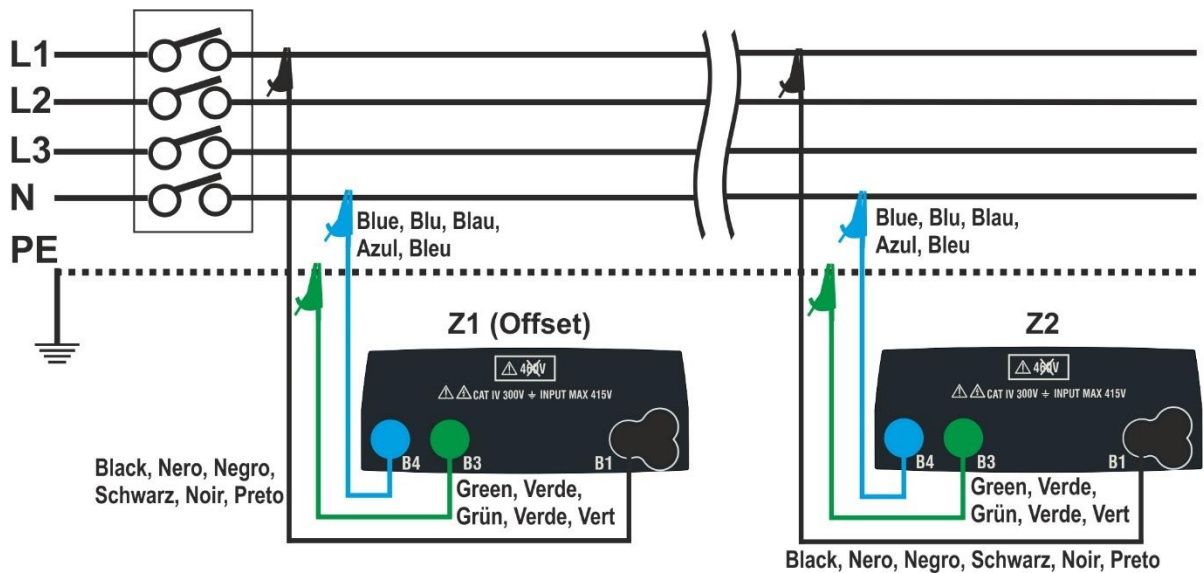
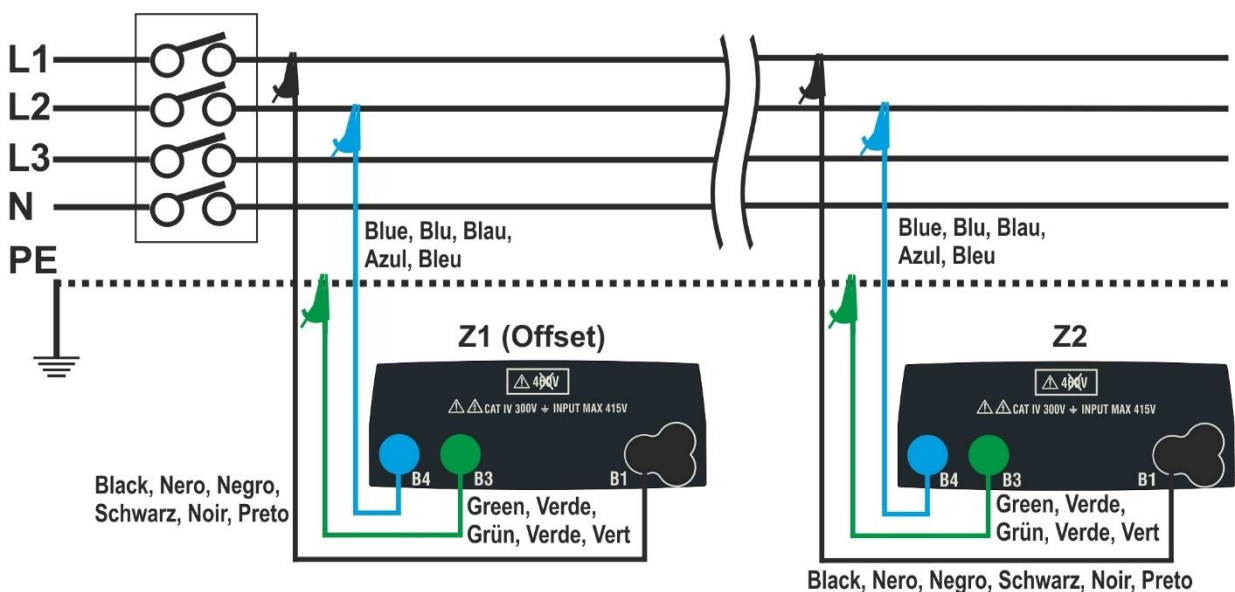

Fig. 33: Connection of the instrument for L-N mode voltage drop measurement
Fig. 34: Connection of the instrument for L-L mode voltage drop measurement
4. Connect the instrument to the initial point of the mains being tested (typically downstream of a protection device) according to Fig. 33 or Fig. 34 in order to carry out the first **Z1 (Offset)** impedance measurement. In this case, the instrument will measure the impedance upstream of the initial point of the mains being tested, taking it as starting reference. The following screen (referred to L-L measurement) appears on the display.
7. Connect to the final point of the mains being tested according to Fig. 33 or Fig. 34 in order to measure the **Z2** impedance at the end of the line. Note the previously measured Z1 (Offset) value displayed.